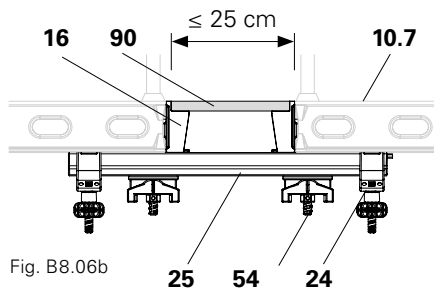
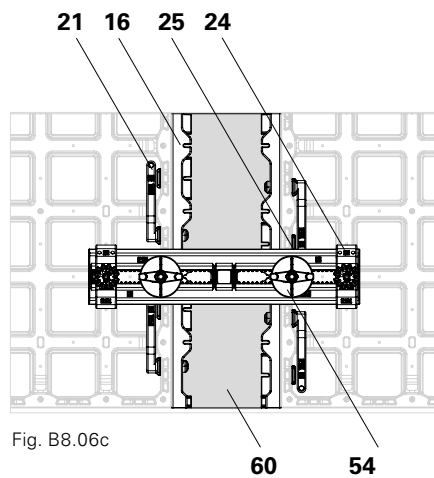
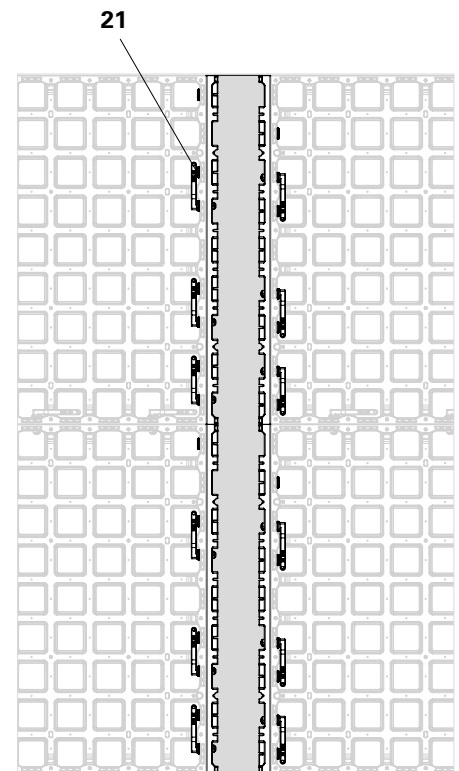

Fig. B8.06b
Fig. B8.06c
Fig. B8.06a
1. Mount the filler support (16) on both panels using 6 DUO couplers (21) each! (Fig. B8.06a)
2. Cut the 18 mm filler plate (60) 2 cm narrower than the length to be compensated. Insert the filler plate. From outside, tighten the Torx 5 x 15 screws through the screw holes provided in the filler support.
3. Install compensation waler DUO 62 (25) with DUO tube holder (24).
4. Guide the tie through the tie points of the panel (54). (Fig. B8.06b + Fig. B8.06c)